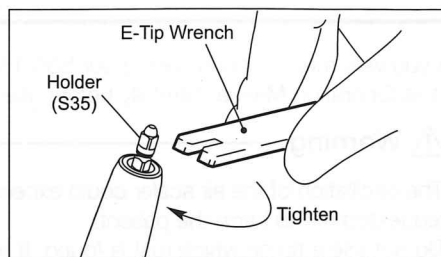

Fig. 1
- 1) Screw S35 into a handpiece by hand until it is tightened lightly. Then, tighten it securely with the wrench (E-Tip Wrench). (Fig. 1)